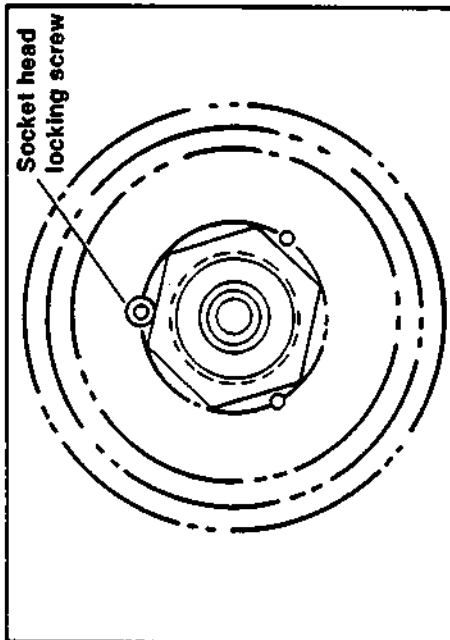

Figure 7-10. Sprocket Nut Secured
3. See Figure 7-10. If main drive gear (9, Figure 7-22) is to be removed, remove locking screw from sprocket and loosen sprocket nut using special WRENCH, Part No. HD-94660-37. Nut has left hand thread.